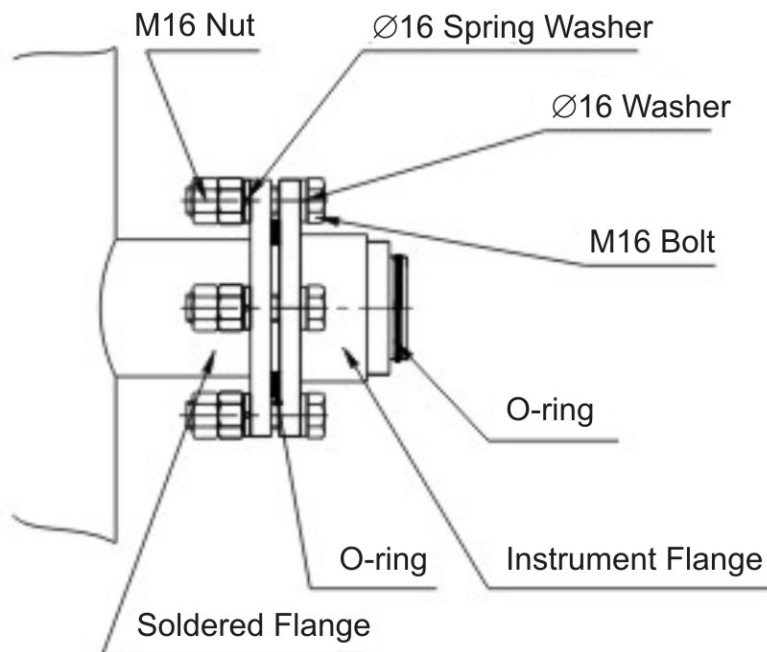

Figure 3-3: Instrument Flange
Mount the two instrument flanges onto the welded welding flanges with 8 M16 bolts (with spring washer and plain washer) and 2 O-rings. Raise the instrument flanges to the same height as the welded flanges, then tighten the 8 M16 bolts to about half tight to make sure that the O-rings are sealing. Typically the distance between the instrument flange and the welding flange is around 3mm. See Figure 3.3.
- c. Loosen the 4 fastening screws on the instrument flange where the transmitter unit is mounted (see Figure 3.3). Adjust the flange by either tightening or loosening the 4 M16 bolts until the measured voltage stabilizes to its maximum value. Tighten the four fastening screws.